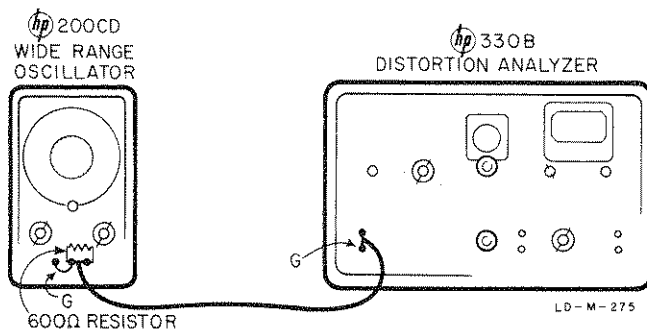

Figure 5-6. Distortion Test Setup
- a. Connect the Model 200CD to the distortion analyzer as shown in figure 5-6.
a. Connect the Model 200CD to a distortion analyzer as shown in figure 5-6.